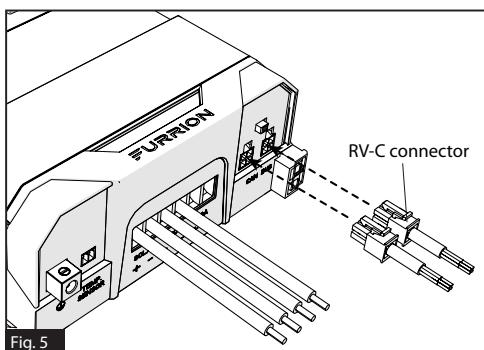

Fig. 5
5. Plug the RV-C connector to the MPPT controller (if applicable). (Figure 5)